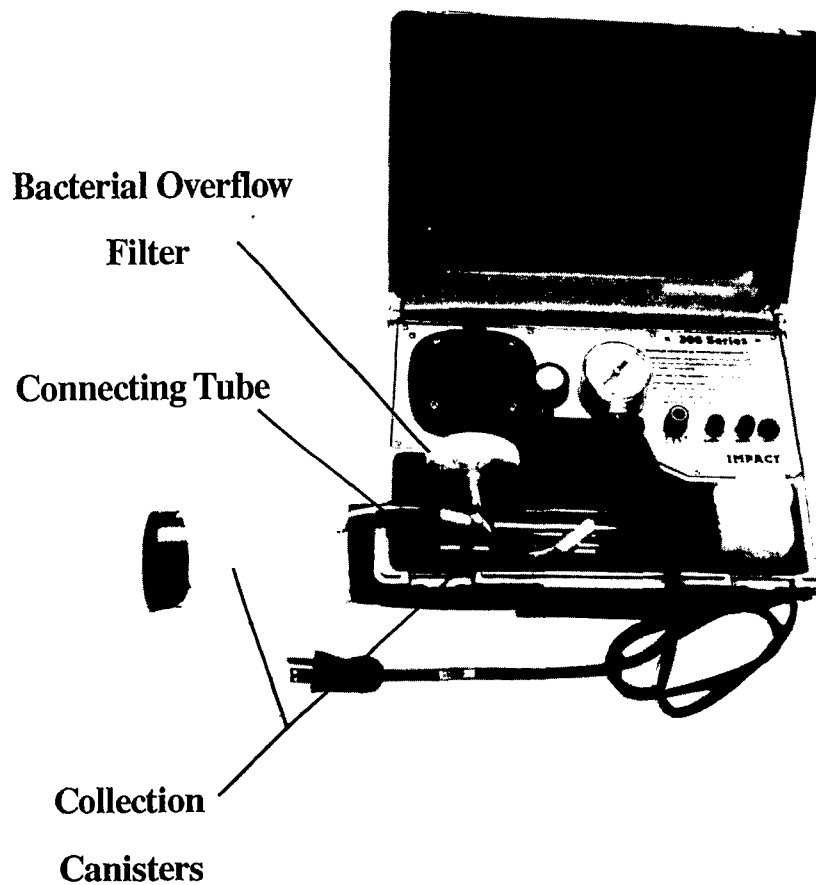

Figure 2. Interconnection Diagrams
INTERCONNECTIONS: No interconnections are required before placing this device into operation. Figure 2 depicts the interconnections required to connect the Model 308M to the optional bacterial/overflow filter.
1. Insure that all suction tubing is properly secured to respective fittings. Verify that collection canister lids are properly secured, fittings in place as shown (Figure 2), and no kinks in connecting tubing.
2. Connect AC line cord to live AC mains (Charge Lamp (3) will illuminate) or Auto Power Cable between 12 VDC source and Model 308M (Charge Lamp (3) will not illuminate) if external operating power is required.
3. Turn Mode Selector Switch (4) to the appropriate AC, 12VDC or BATTERY position. Pump should begin operation and Power Lamp (2) illuminates.
4. Adjust Vacuum Regulator (Limiter) (6) to the maximum desired vacuum level by "pinching" and holding the vacuum tubing going to the collection canister. Deliverable vacuum levels will not exceed the preset maximum level. Adjusted and delivered vacuum levels are continuously displayed on the dual-scale Vacuum Gauge (5).
5. For applications which warrant suctioning of greater quantities of aspirate, multiple canisters may be connected, in series, as shown (Figure 2).
6. An optional filter which is both hydrophobic and bacterial can be utilized. This filter connects between the vacuum pump and collection canister. When multiple canisters are used, the filter is connected between the vacuum pump and collection canister furthest from the patient (Figure 2). This filter should be replaced when discoloration of its membrane occurs, the membrane contacts aspirate, or following 150 cumulative hours of use. This filter is designed to retain bacteria which would otherwise be exhausted into the immediate vicinity.
4. Orient collection canister and route tubing as shown in Figure 2 following cleaning.